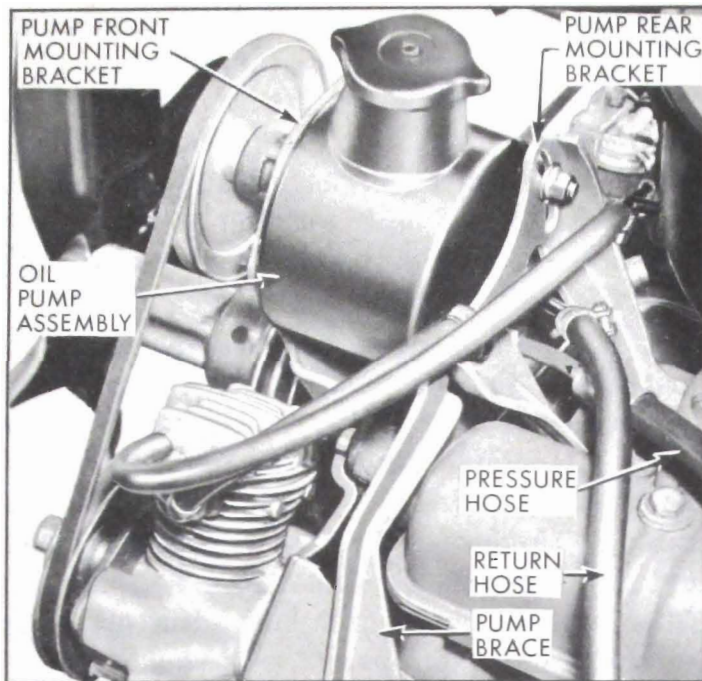

Figure 8-23—Oil Pump to Engine Mounting
2. Disconnect return and pressure hoses from pump. See Figure 8-23. Use shipping plugs and caps to cover the hose connector and union on pump and open ends of the hoses to avoid entrance of dirt